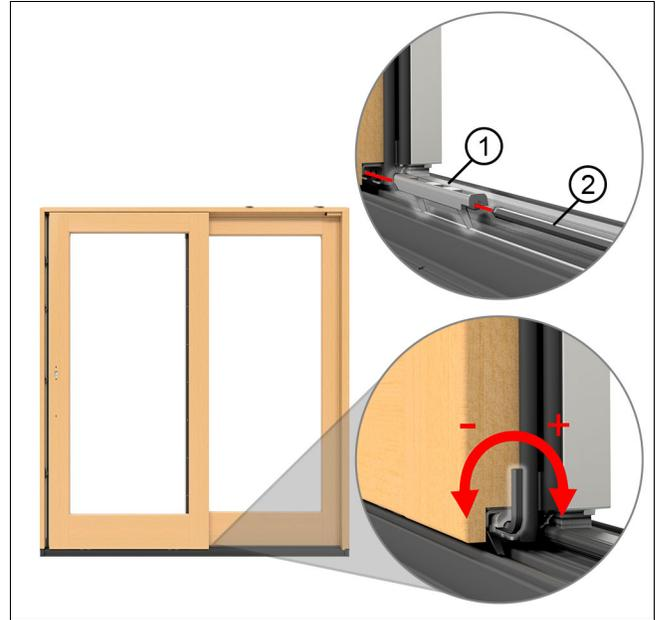
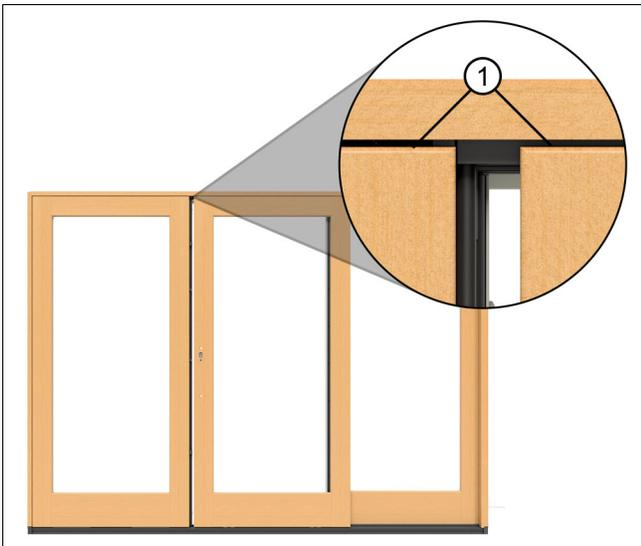

Figure 48
Figure 49 OXO configuration shown.
2. Adjust the panel height to obtain even reveals. Insert the plastic roller adjustment guide in the end of the panel. This will guide the Allen wrench into the adjustment screw. Turn the Allen wrench clockwise to raise the roller and counterclockwise to lower the panel. See Figure 48 and Figure 49.
*NOTE: Rollers are set at neutral from the factory. Adjustment from neutral is about 1/8" up or down. The expected gap between the top of the panel and the frame should be about 1/8". See Figure 49.*